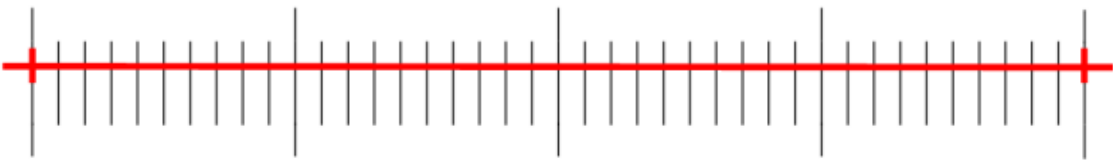

Figure 5-8
4. The minimum range of the selected micrometre is 0.01 mm (10 micron). Figure 5-8 shows the image under a ten× objective lens. At this time, the “magnification” is set to “10X”, the “unit” is marked as “µm”, and the “length” is set to “40”.